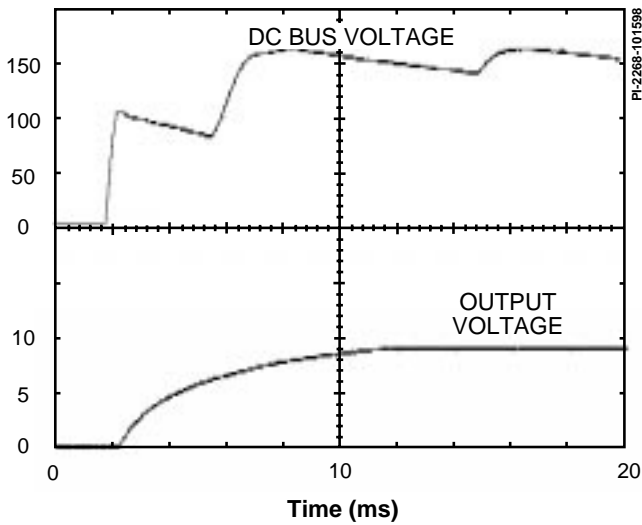

Figure 10. Turn On Delay, 115 VAC Input.
**Power Supply Turn On Sequence** –The waveforms shown in Figure 10 illustrate the relationship between the high-voltage DC bus and the 9 V output voltage. Since the *TinySwitch* internal power consumption is extremely small and is derived entirely from the DRAIN, the supply starts switching almost as soon as power is applied, as shown in Figure 10. The output achieves regulation approximately 8 ms after power is applied, with no overshoot.